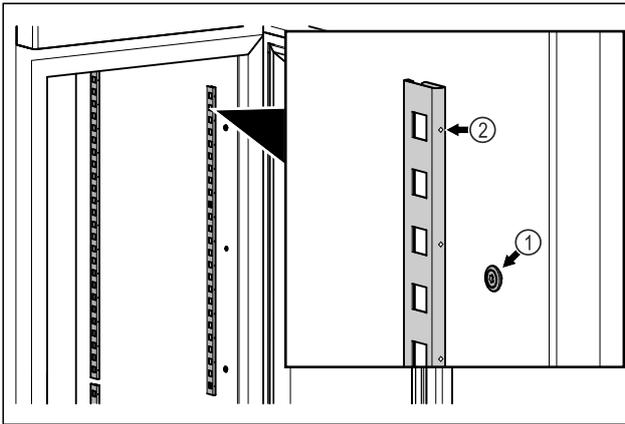

Fig. 85 Example illustration
- ▶ Hook the snap strips into the suspension Fig. 85 (1). Mark Fig. 85 (2) must point forwards.